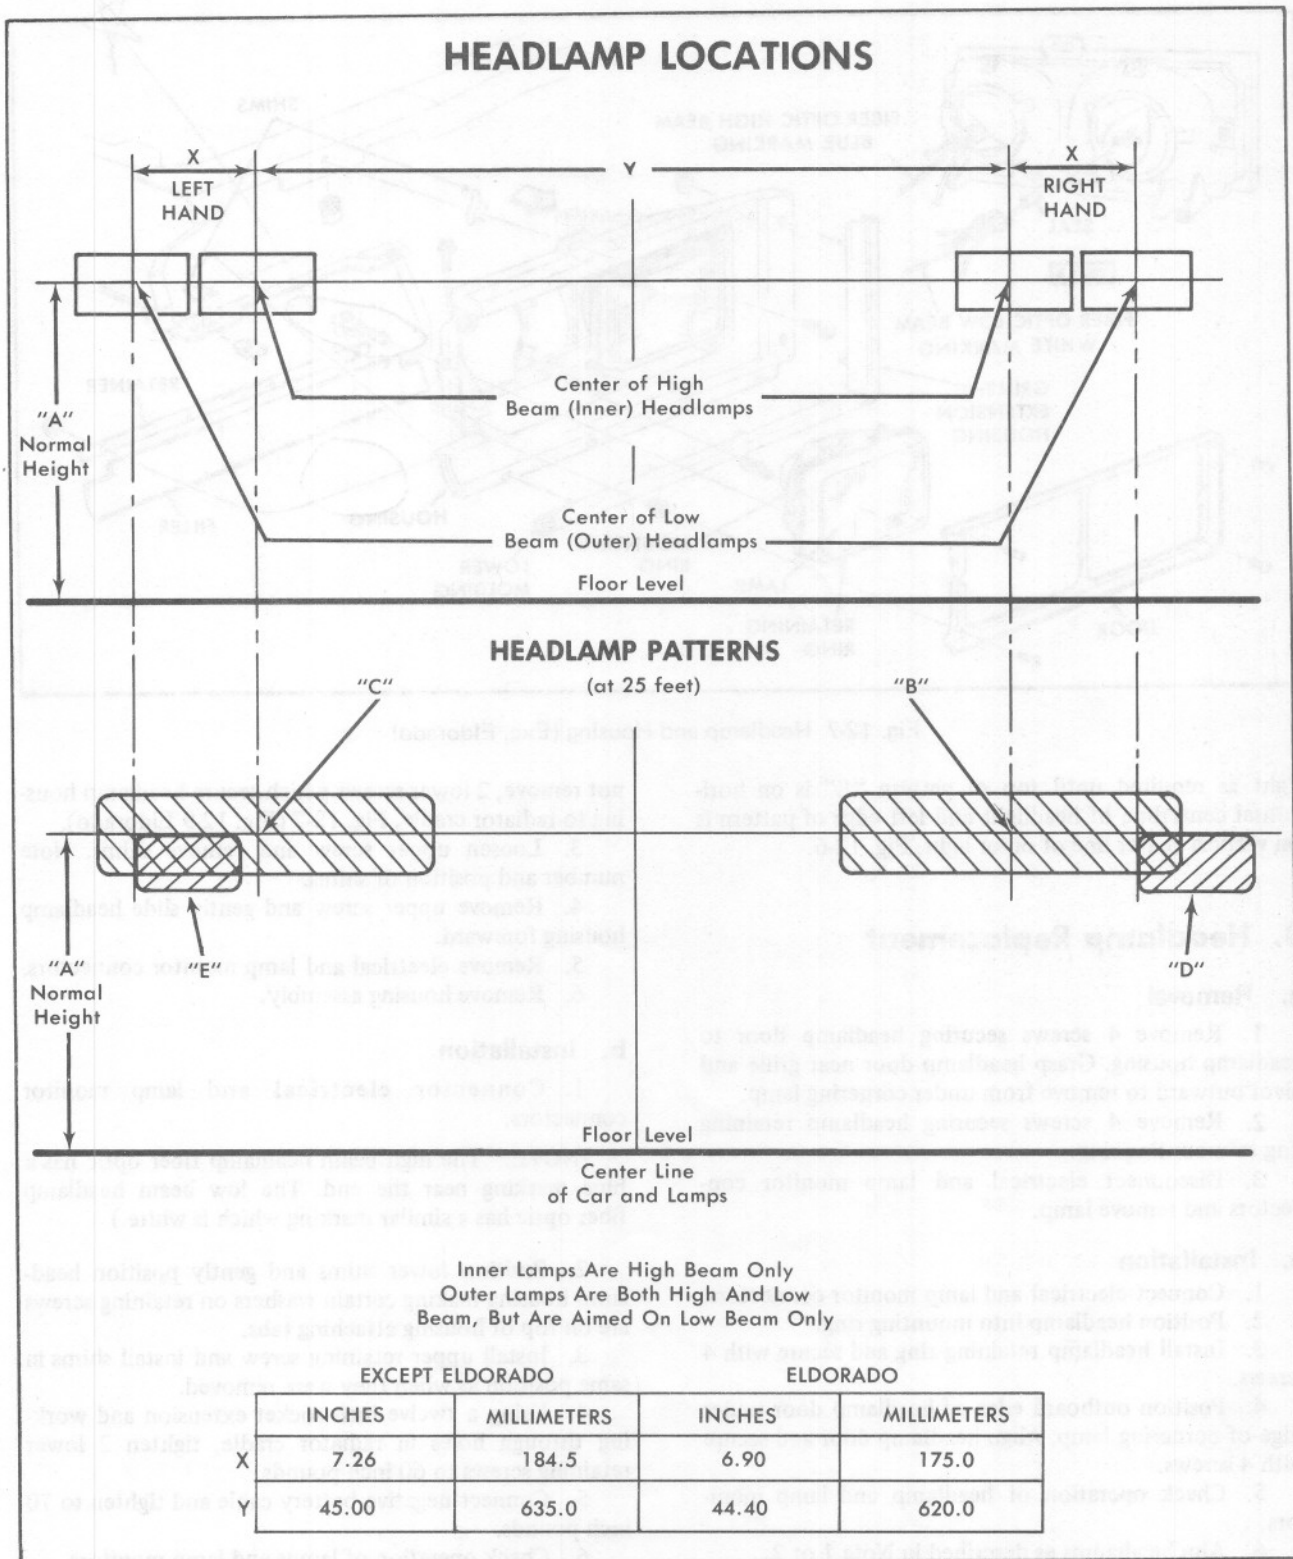

Fig. 12-6 Headlamp Location and Patterns
The factory recommended headlight aiming specifications for the screen method are shown in Fig. 12-6. Individual State laws vary and dealers should check with local authorities.
Make a headlight aiming screen according to the dimensions and layout shown in Fig. 12-6.
5. Cover both left side headlights and right side outer light and adjust right inner light as required until pattern centers at point "B" on screen, Fig. 12-6.
6. Cover both right side headlights and left side outer light and adjust left inner light as required until pattern centers as point "C" on screen, Fig. 12-6.
8. Cover left outer headlight and adjust right outer light as required until top of pattern "D" is on horizontal centerline of headlight and left edge of pattern is on vertical centerline of outer light, Fig. 12-6.
light as required until top of pattern "E" is on horizontal centerline of headlight and left edge of pattern is on vertical center line of outer light, Fig. 12-6.